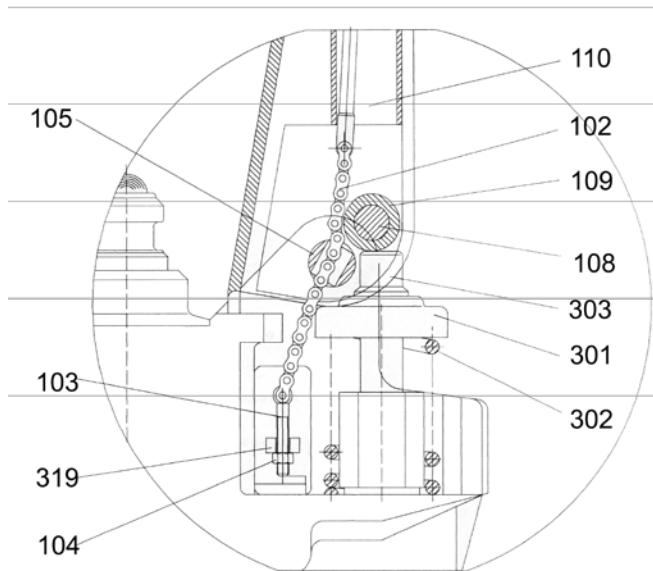

Fig. 3
**2.2** Set control handle (117 or 120G) to the **'LOWER'** position, then pass the adjusting nut (104), adjusting bolt (103) and chain (102) through the hole of axle (105) (See fig. 3).